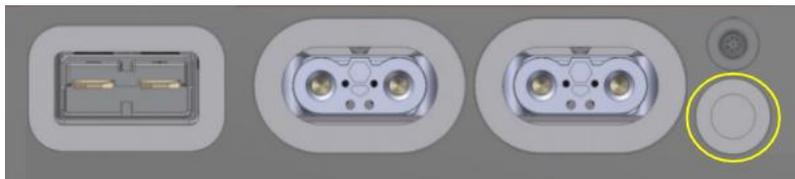

Figure 20: No lights are illuminated, battery is OFF. Circular LED indicated in YELLOW.
1. Place the magnet against the circular LED and hold for 3 seconds (Figure 20).
1. **Restart the battery using a magnet:** Place the magnet against the circular LED and hold for 3 seconds (Figure 20).